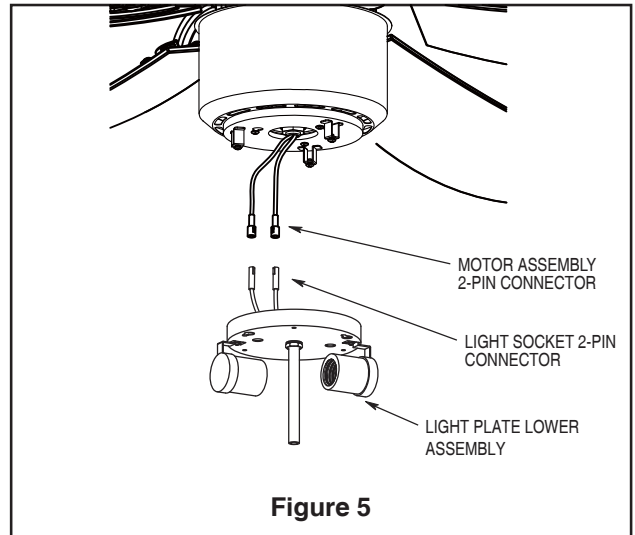

Figure 5
5. Route wires through motor coupling cover, canopy screw cover and canopy (Figure 5).
- 5. Connect the 2-pin connector from the light socket plate to 2-pin connector from motor assembly (Figure 5).